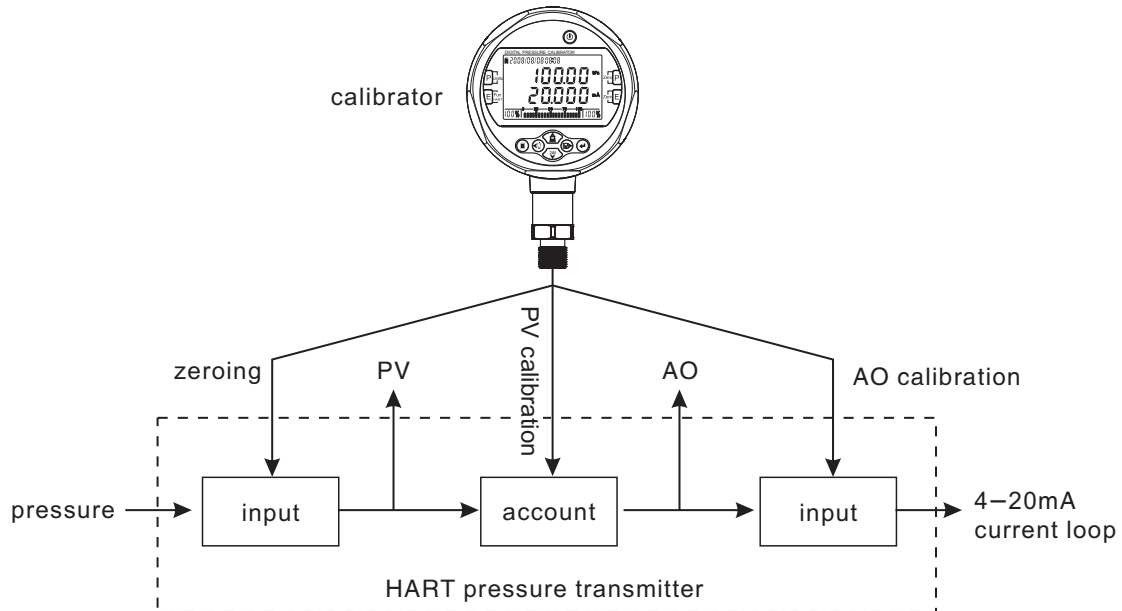

Figure 4–5: HART transmitter working setup map
(1) Please refer the figure 4–5: HART transmitter working setup map
(2) The abbreviated words of the ADT672:
(3) HART function's serial number is displaying in the status area, as  is function 1.
(4) As figure 4–5, HART pressure transmitter includes: PV calibration and AO calibration.